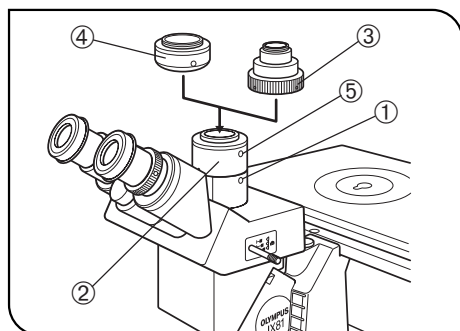

Fig. 59
(Fig. 59)
1. Using the Allen screwdriver, loosen the clamping screw ① on the trinocular observation tube H.
2. Fit the IX-TVAD TV adapter ② into the straight photo tube and tighten the clamping screw ①. (Fig. 59)
3. Firmly screw the U-CMT C-mount adapter ③ or U-FMT F-mount adapter ④ into the IX-TVAD TV adapter ②. (Fig. 59)
2. Lightly loosen the clamping screws ① and ⑤. (Fig. 59)
3. While observing the monitor image and holding the U-CMT ③ or U-FMT ④ stationary, rotate the IX-TVAD ②. Tighten the clamping screws ① and ⑤ when the monitor image is in focus. (Fig. 59)